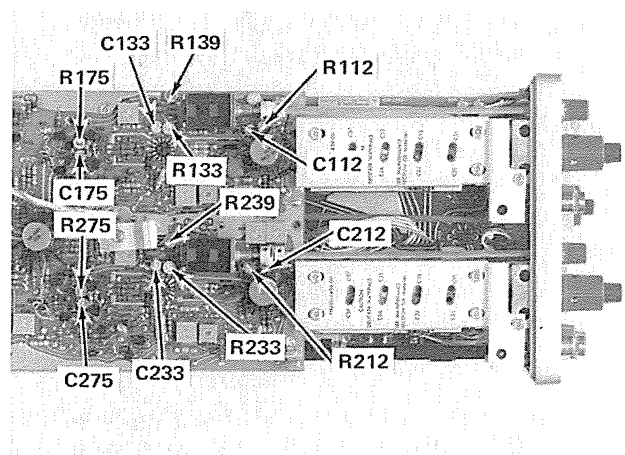

Fig. 5-17. Location of high-frequency compensation adjustments.
e. ADJUST—R139 and R475 (see Fig. 5-17 & 5-18) for the best flat-top waveform.
m. ADJUST—R239, R475, C471, and C477 (see Fig. 5-17 & 5-18), for the best flat-top waveform.
p. Connect the output of the Fast-Rise High-Amplitude Pulse Generator (Type 109) to the CH 1 input via a 50  $\Omega$  5 ns GR cable, (2) X10 GR attenuators, X5 GR attenuator, a 50  $\Omega$  GR termination, and a GR-to-BNC adapter.
t. ADJUST—C175, R175, C133, R133, C112, and R112 (see Fig. 5-17), with a low-capacitance screwdriver, for the best flat-top waveform.
y. ADJUST—C275, R275, C233, R233, C212, and R212 (see Fig. 5-17), with a low-capacitance screwdriver, for the best flat-top waveform.